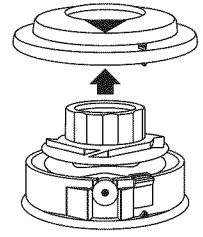

Fig. 17
3. Remove the spool cover (Fig. 17).